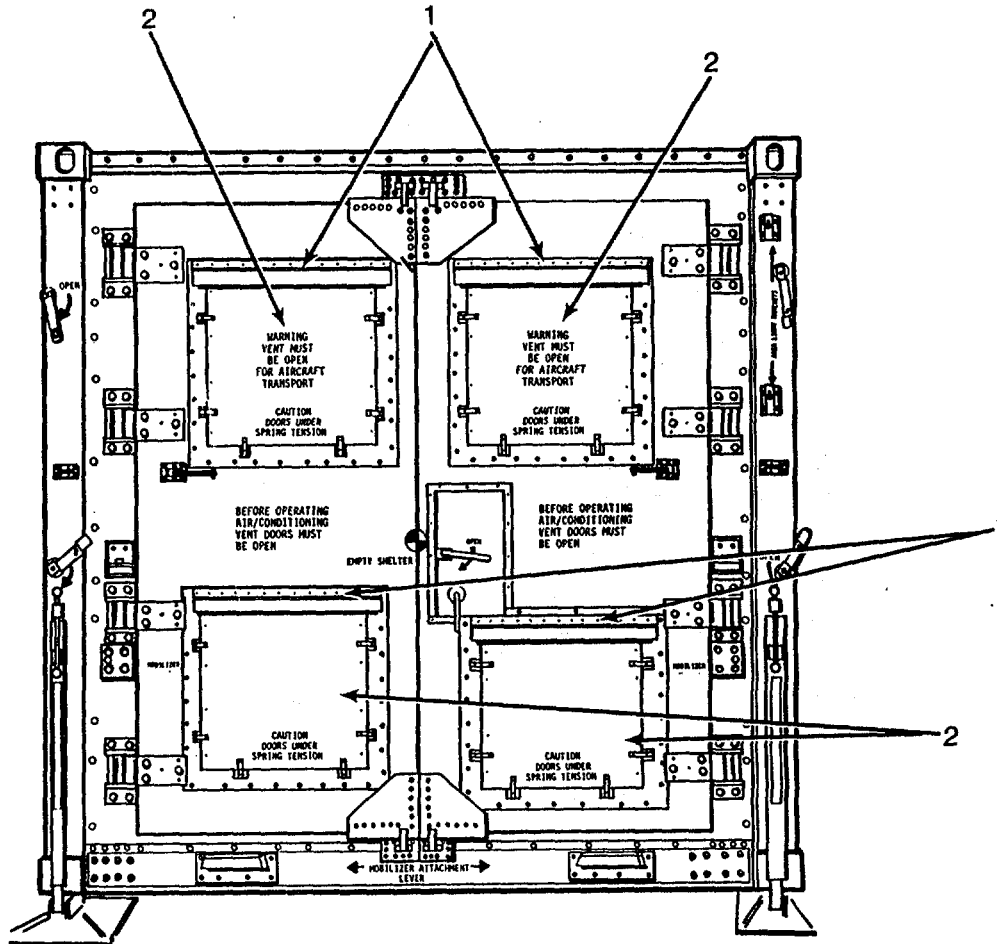

Figure 3-2. Cargo Doors AC Vent Assemblies
3-4. CARGO DOORS AC VENT ASSEMBLIES. Refer to Figure 3-2. Lubricate hinges (1) on cargo doors AC vent assemblies (2) with lubricant (Appendix E, item 4). Wipe off excess lubricant.